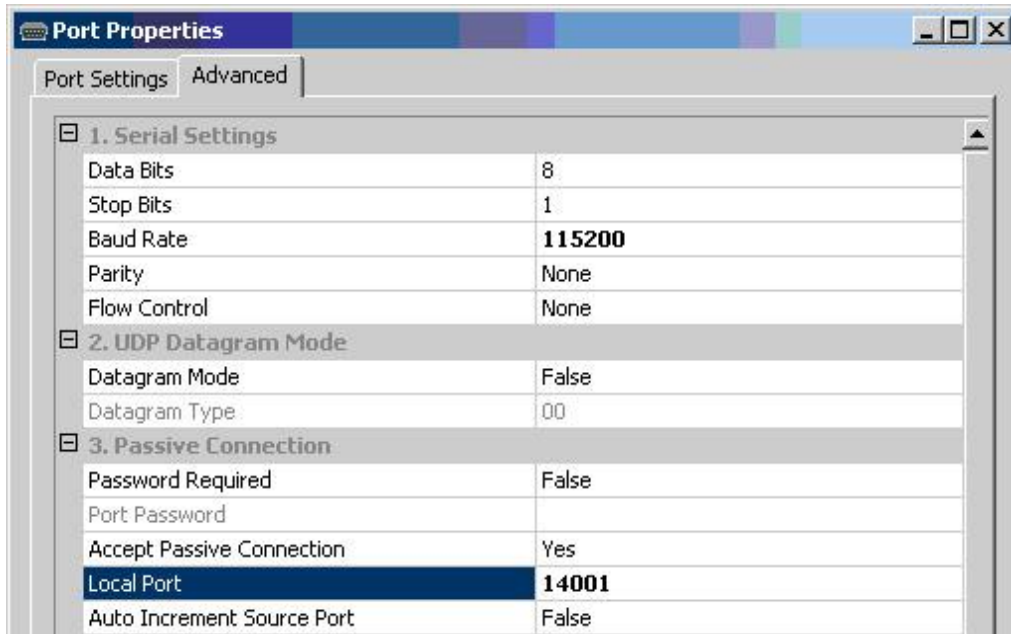

Fig. 12
- In the 1. Serial Settings (Fig. 12) parameters, change Baud Rate to 115,200 as shown in the example, or to whatever baud rate is set in the controller. See Ethernet to Serial Converter, Installation and Setup, Controller Setup.
- In the 3. Passive Connection (Fig. 12) parameters, change Local Port to 14001, and click OK.